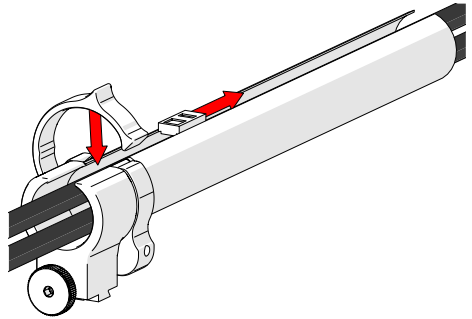

Fig. 104 - Zip up to close
2. Follow the cable placement, zipping the tube closed (*Fig. 104*).